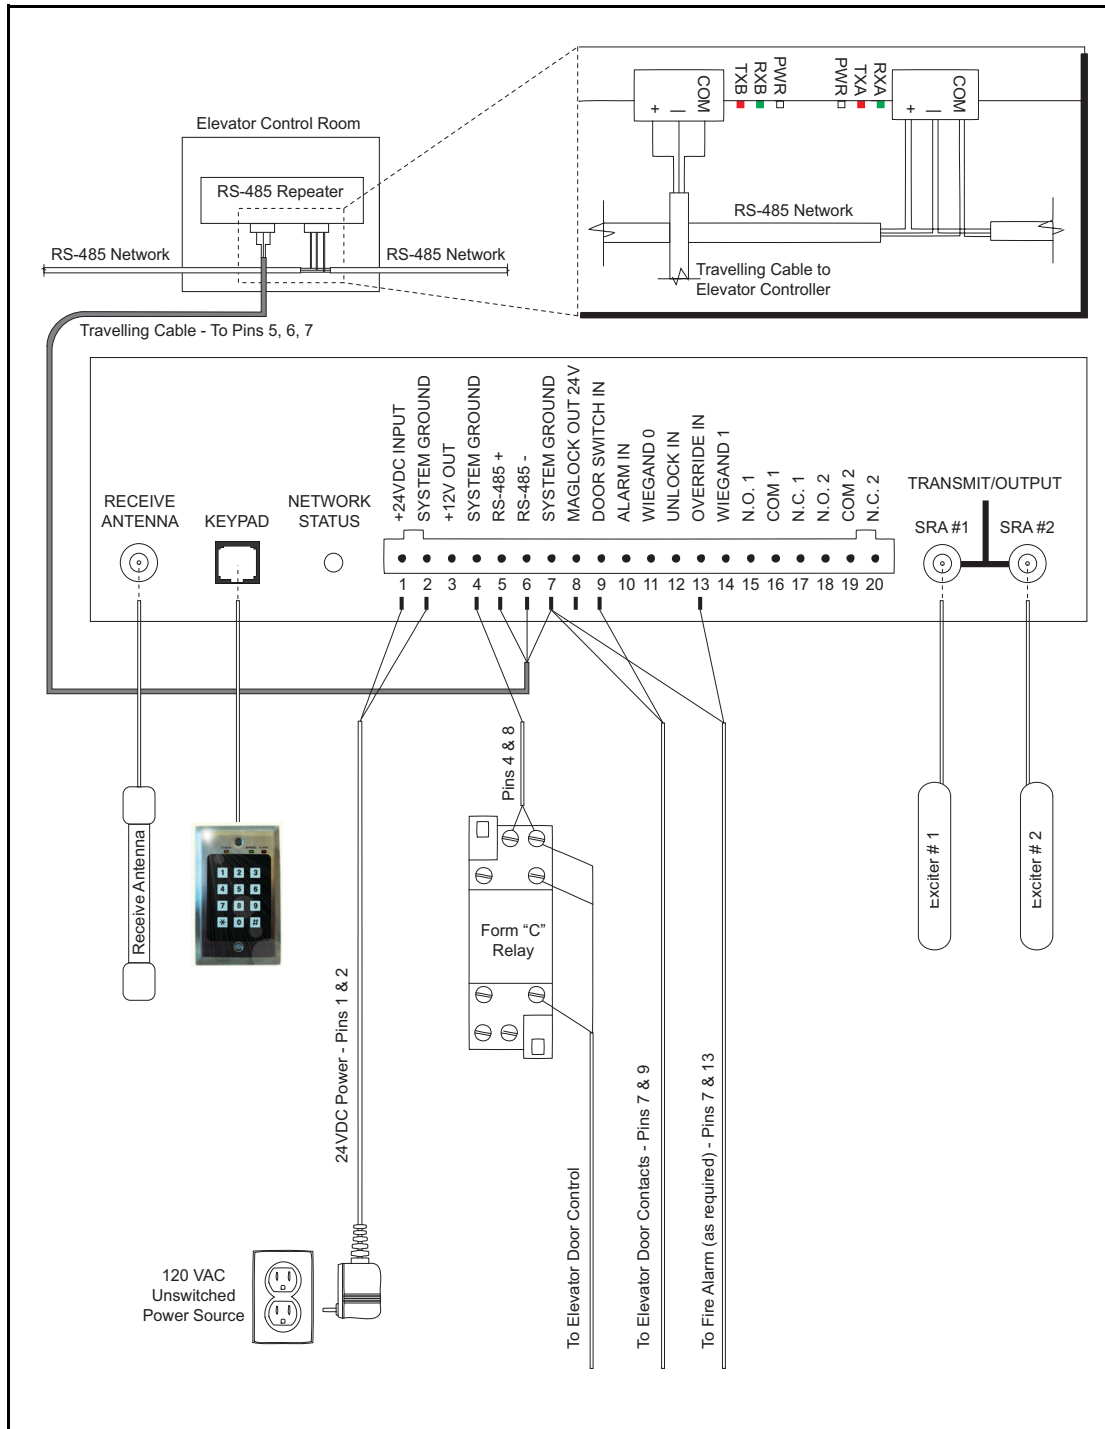
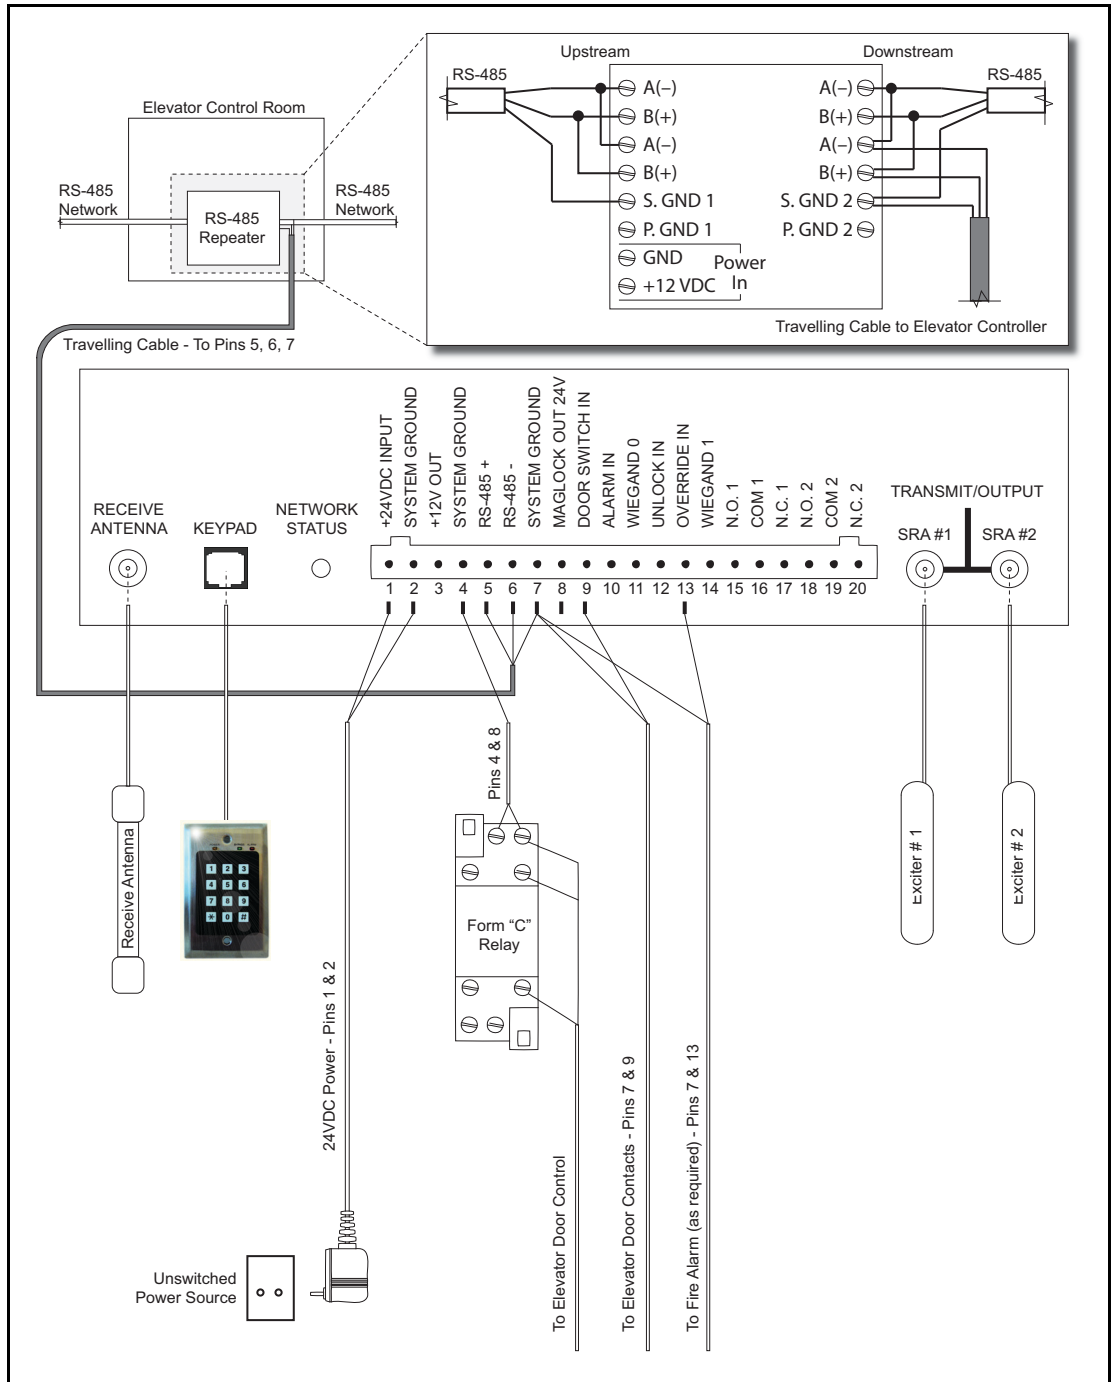

Figure 3-21: Single Elevator Wiring (North America)
Figure 3-22: Single Elevator Wiring (International)
9.1 Connect one side of an RS-485 repeater to the RoamAlert RS-485 network in the elevator control room. If there are more than four (4) elevators being controlled, more repeaters need to be connected. For typical wiring, see Figure 3-21 on page 3-40 (North America) or Figure 3-22 on page 3-41 (International). For jumper settings on the International Repeater, see Figure 3-24 on page 3-45.